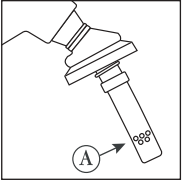

Figure 15
- Hose point fails low. The nozzle shut-off port may be covered with the A/L adaptor. (See item (A) in Figure 15)